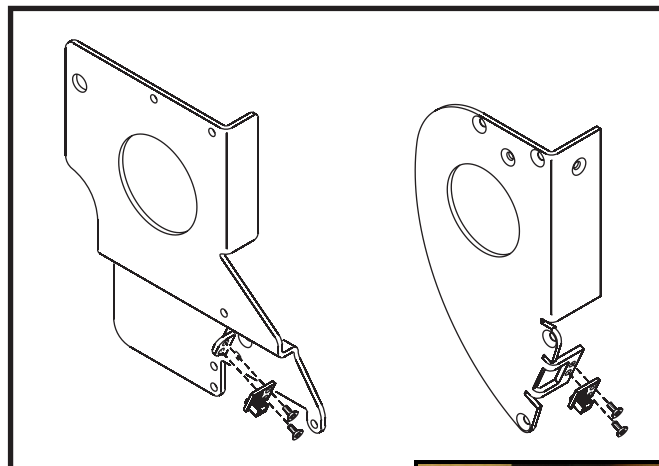

Figure 9
9. See Figure 9. Disconnect the small sensor PCB on the inner aperture plate.
10. See Figure 9. Remove the two Torx 10 sensor PCB mounting screws, and remove the sensor PCB from the inner aperture plate. The inner aperture plate is no longer required.
11. Re-use the screws to install the sensor PCB on the new outer aperture plate (P/N 62409070) supplied in the kit, leaving the sensor PCB as shown in the photo at the bottom of Figure 9.